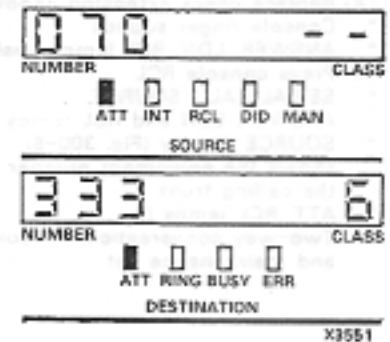

Fig. 300-5
- * SOURCE display (Fig. 300-5) shows equipment number of calling trunk